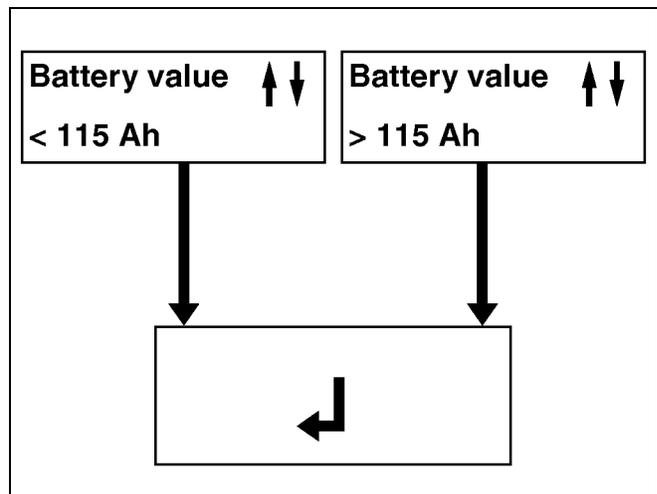

Figure 4
4. Select battery capacity **<115 Ah** (passenger cars, light trucks) using the arrow keys (Figure 4).